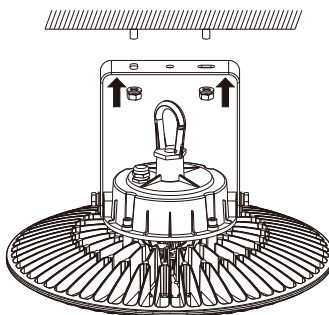

Fig. 2
2. Mount the bracket to the desired surface using 2 screws to secure each hole. **(Figure 2).**